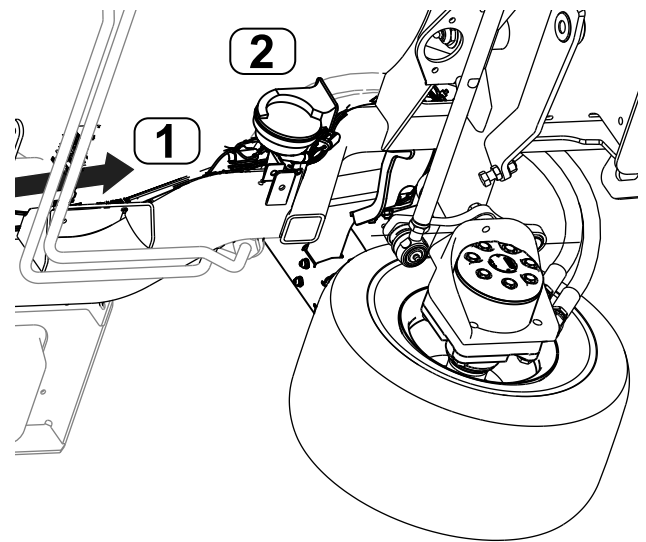

Figure 42
4. Connect the control wire-harness connectors labeled HORN (J01, J02) to the horn (Figure 42).